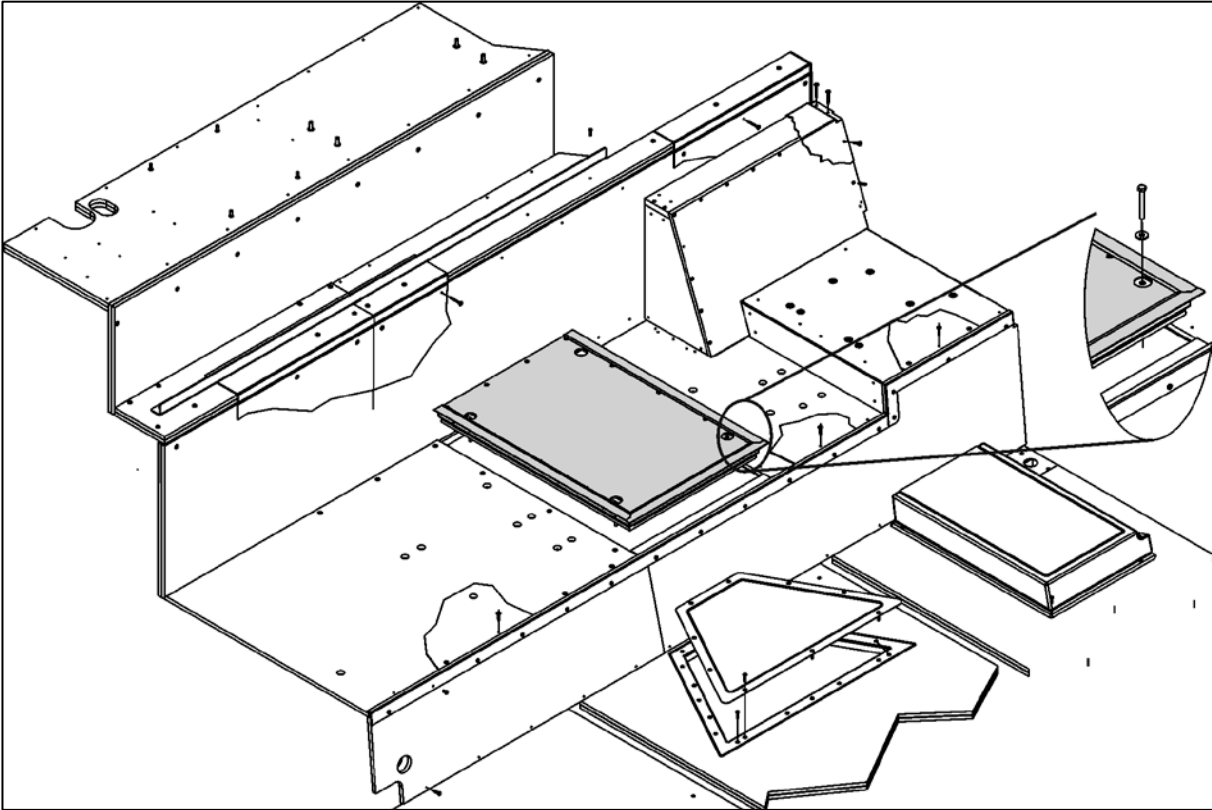

Figure 2: Engine access hatch
3. Remove the access hatch. (Fig. 2) Store access hatch and fasteners in a secure location